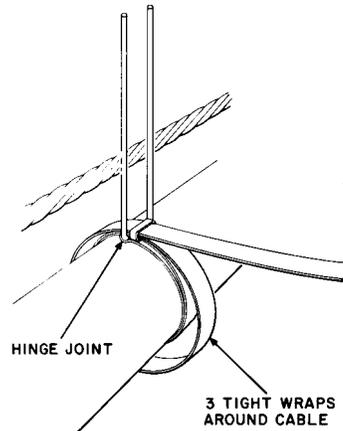

Fig. 14—Wrapping Support Around Cable
- (1) Place the hinge joint directly under the suspension strand and place three wraps of the steel strap around the cable or sleeve, passing the end of the strap through the buckle loop at the hinge joint when completing each wrap. Draw each wrap snug as shown in Fig. 14.